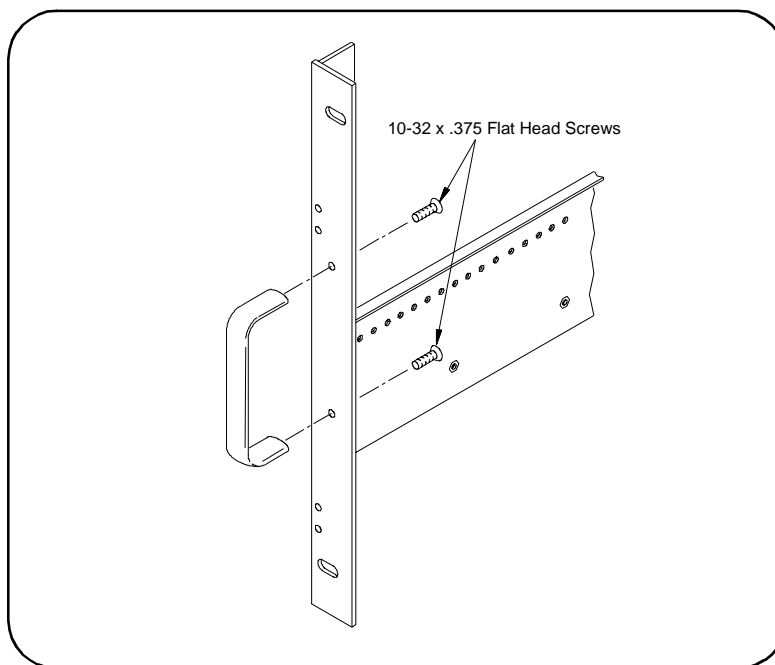

Figure 5 . Attaching Handles to the Adapters (Option AXA - kit p/n E8400-80923).
1. Attach the handles to the standard adapters using the 10-32 x 0.375 flat head screws (Figure 5). Handles are included only with the Standard adapters (Option AXA).